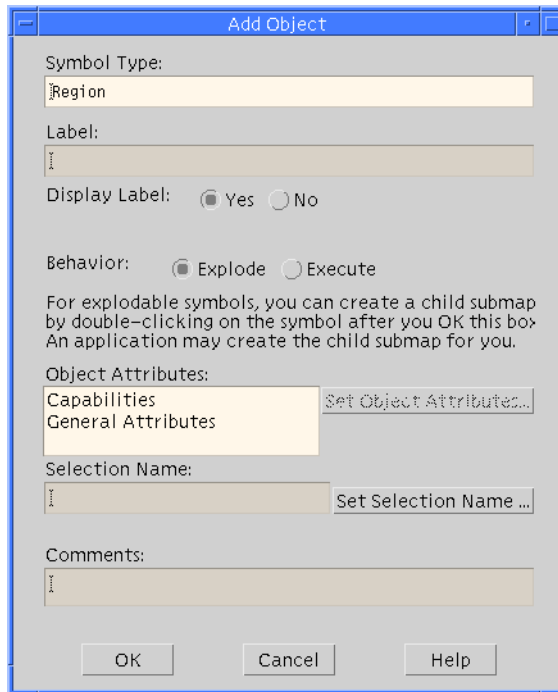

Figure 4-5: Add Object Dialog Box
The Add Object dialog box opens (see Figure 4-5).
3. Holding the middle mouse button down, drag the RFC symbol to the Region window. The Add Object dialog box opens (see Figure 4-5).
- c. Label the RedRFCII symbol with its selection name in the Add Object dialog box (see Figure 4-5).